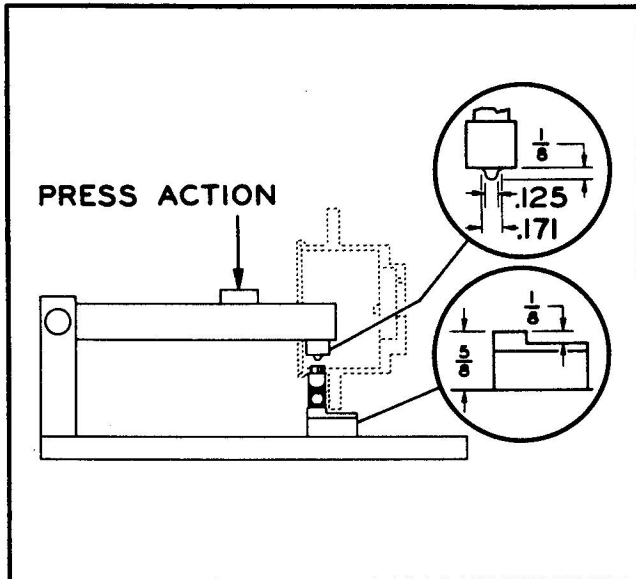

Figure 2-5B. Attaching Conduit Assembly to Housing
- Carefully position conduit assembly and housing in a swaging fixture similar to that shown in figure 2-5B.